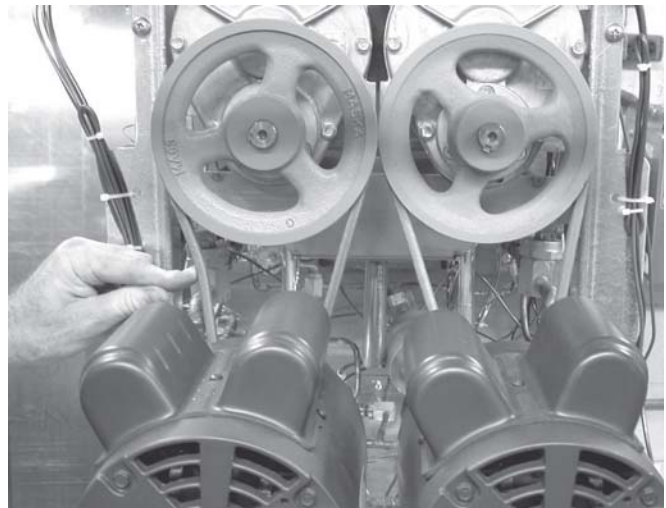

Figure 30. Belt Adjustment
To check belt tension, refer to Figure 30 and follow the steps below:
- B. Press firmly on one belt. Figure 30.